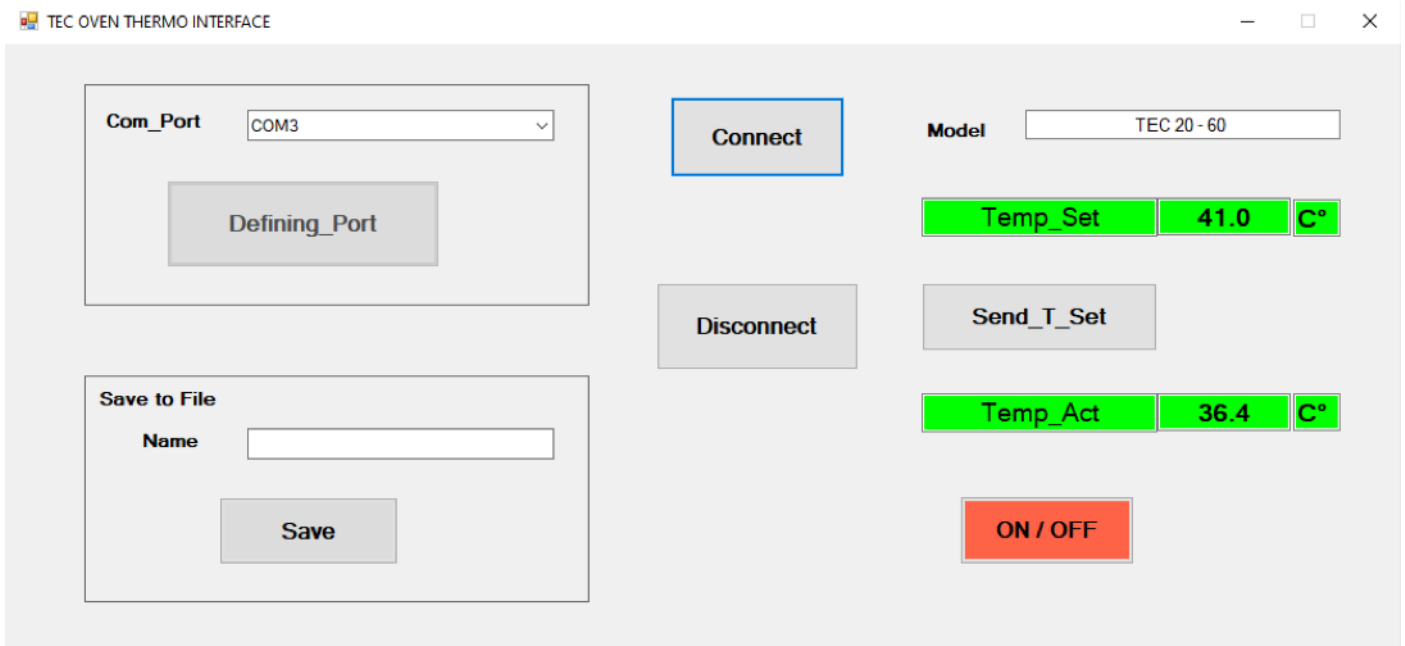

FIGURE 5. User Interface Software
- Pressing the **'Connect'** button interface connects to the Tec controller and activates the interface (figure 5). At this moment, all control knobs of the Tec controller are disabled (except for the **'POWER'** switch), and the current state of the Tec controller are reflected on the interface.